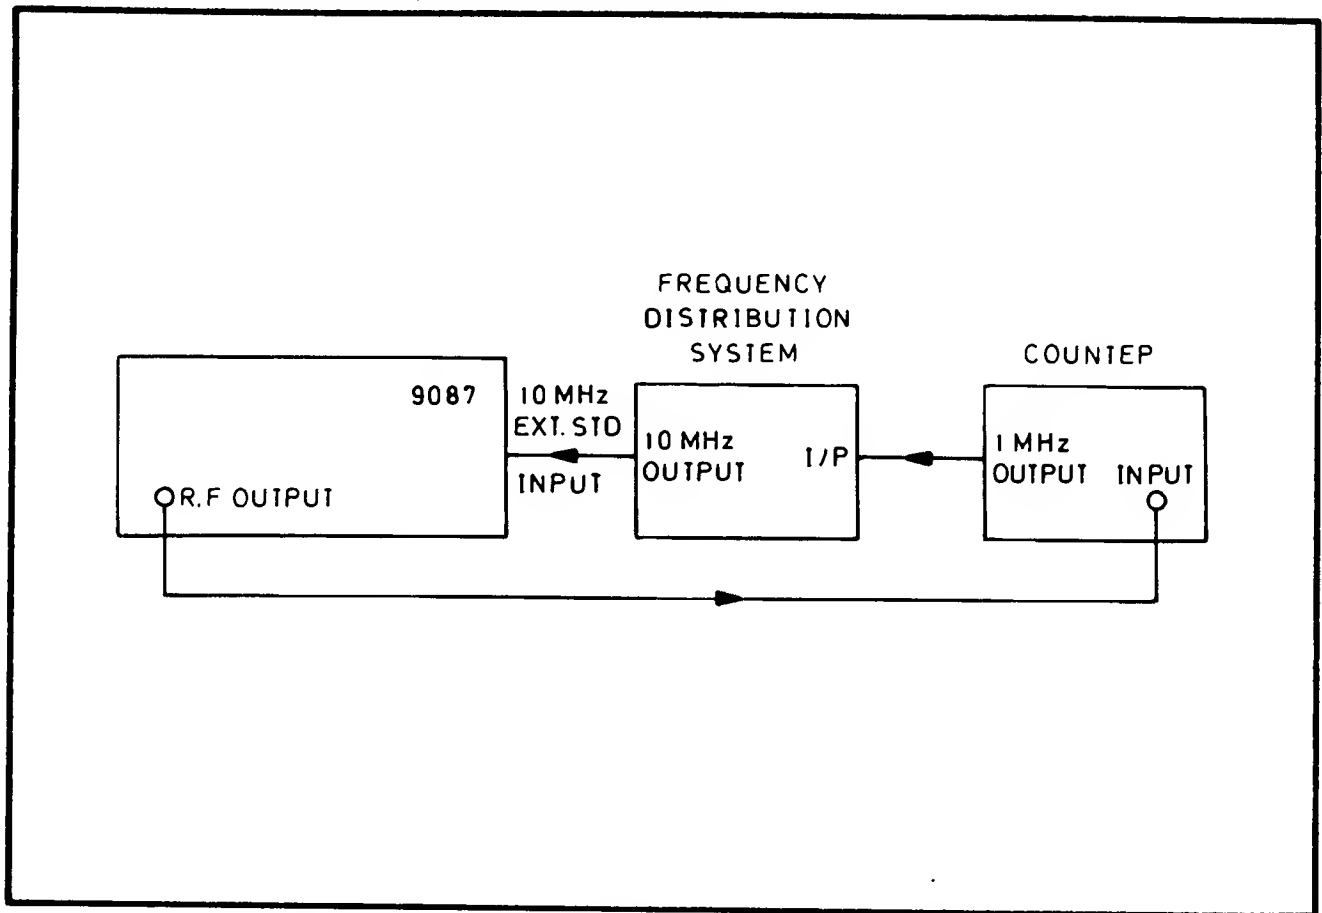

Fig. 7.18 Connections for Frequency PVP
- (c) Connect the test equipment as shown in Fig. 7.18. Switch the 9087 to external standard.